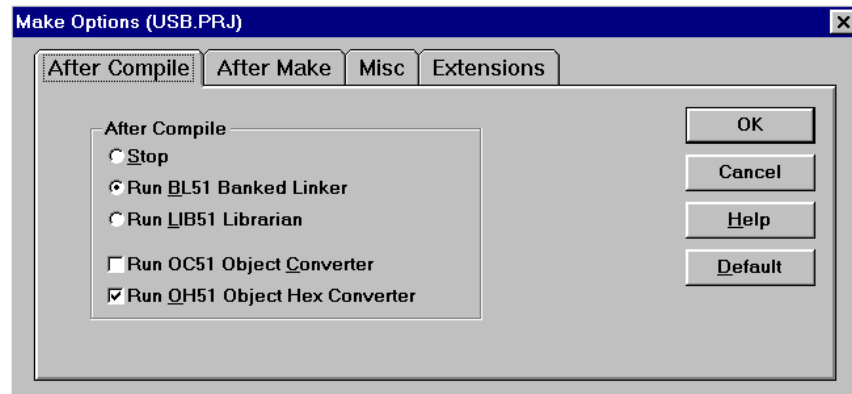

FIGURE 9
- Configure the options in the window as shown in Figure 9 and press *OK*.